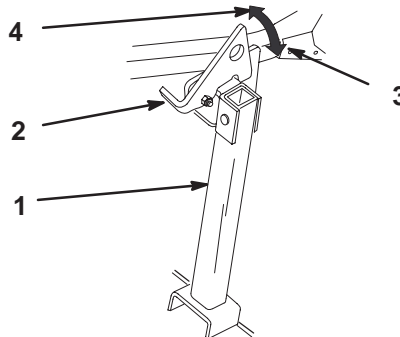

Figure 29
2. Raise latch to unlocked position (Fig. 29).